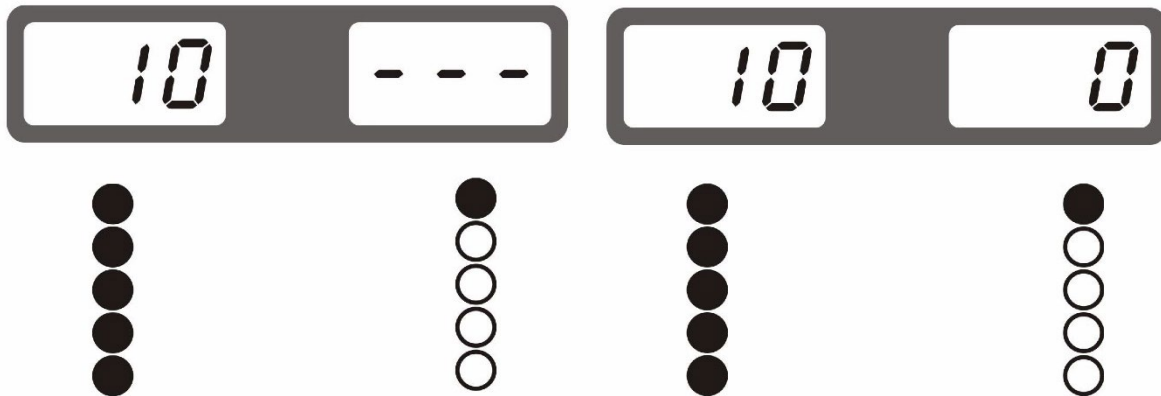

fig.8
3. Rotate the wheel by hand as soon as all LEDs of the position indicator inside light up (fig.8) the weight can be stuck on the inside with the help of the measuring gauge.